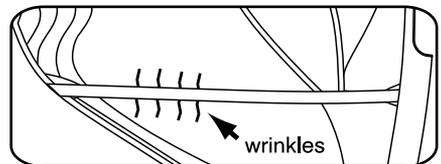

*Figure 7: Move the calibration gauge so the medium mark lines up with the bottom of the mast.*
d) Move the downhaul gauge at the bottom of the sail so that the medium mark of the gauge lines up with the bottom of your mast (figure 7).